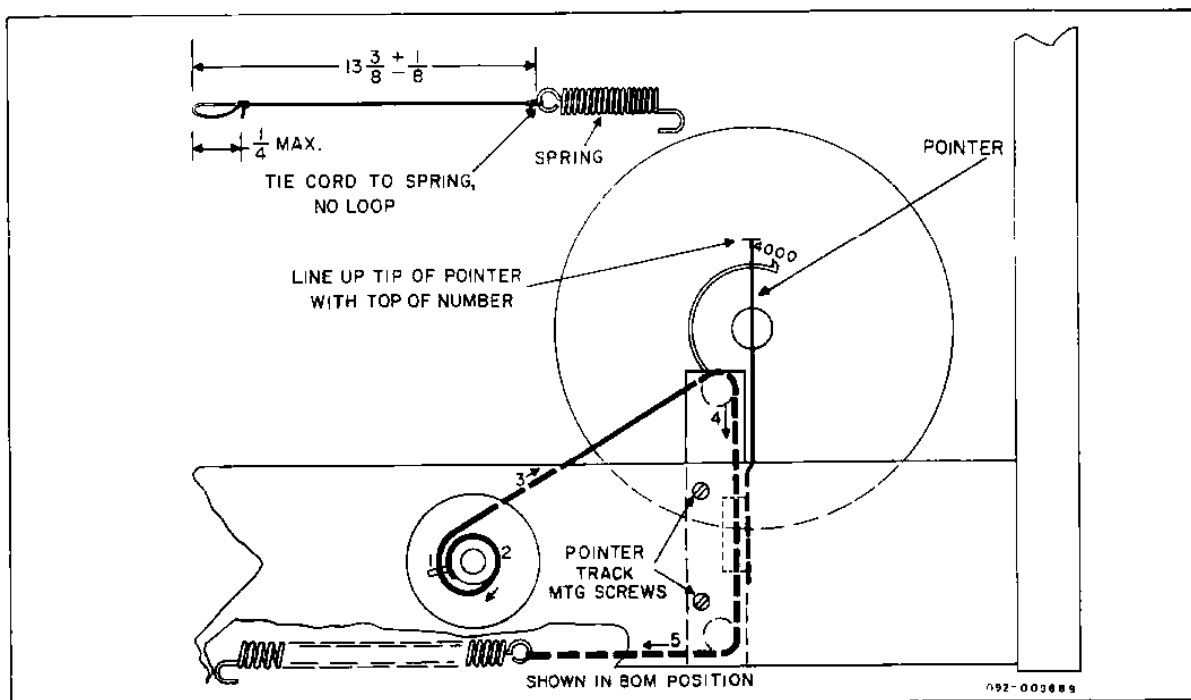

Figure 15. Dial Cord Restringing.
3. Make up dial cord as shown in figure 15.
5. Place the loop at the end of the dial cord over the pin (1) on the drum. Following the numerical sequence and arrows as shown in figure 15, string the dial cord and anchor the spring in the chassis hole provided. Select the spring in the chassis hole providing the required tension.